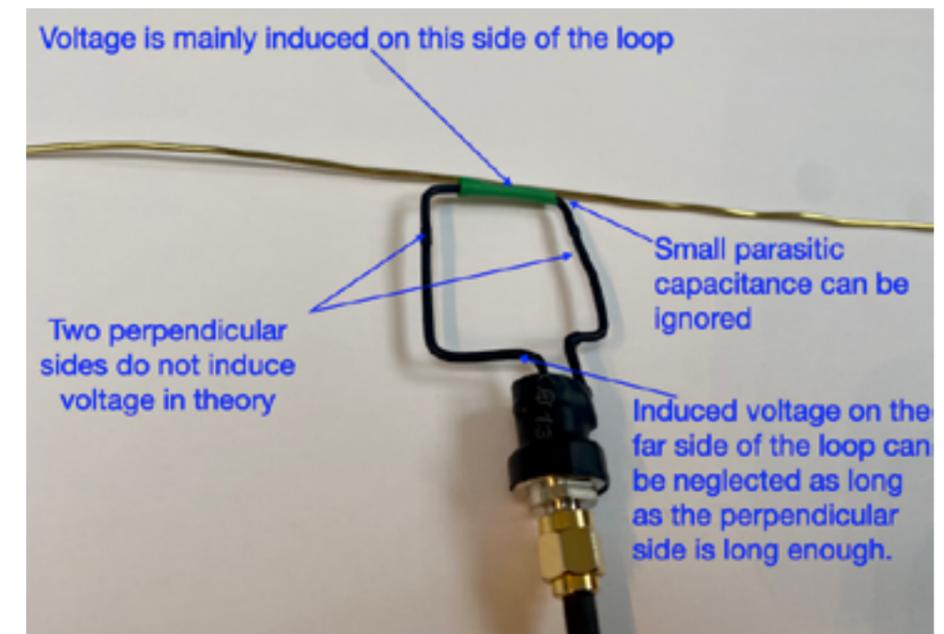

Figure 2 An unshielded square magnetic field loop placed alongside a wire
Therefore, a square magnetic field loop shown in Figure 2 is ideal to measure the induced voltage on one side of the loop, which is proportional to the rate of change of flux generated by rapidly changing current in the wire under test. Such a loop is called magnetic field loop, or "H-field loop". But it is more accurate to be called a "dΦ/dt" loop.
2. The opposite side of the loop is far enough away so the induced voltage on the far/opposite side of the loop is neglected (see Figure 2).
3. The perpendicular sides of the loop do not induce voltages (see Figure 2).